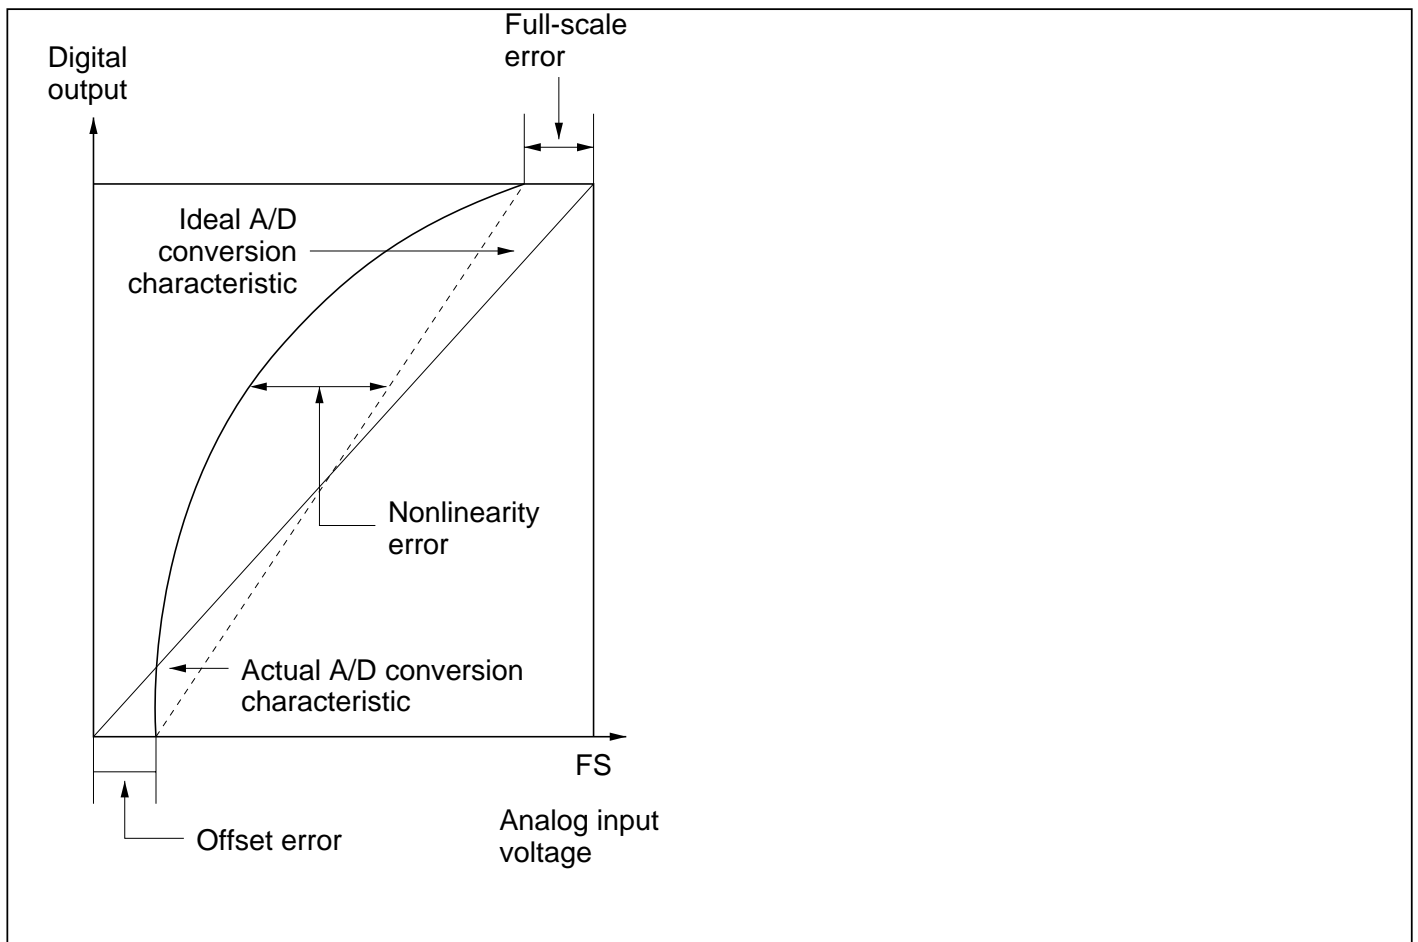

Figure 15-10 A/D Converter Accuracy Definitions (2)
- Offset error:.....Deviation from ideal A/D conversion characteristic of analog input voltage required to raise digital output from minimum voltage value 0000000000 to 0000000001 (figure 15-10)
- Full-scale error:.....Deviation from ideal A/D conversion characteristic of analog input voltage required to raise digital output from 1111111110 to 1111111111 (figure 15-10)